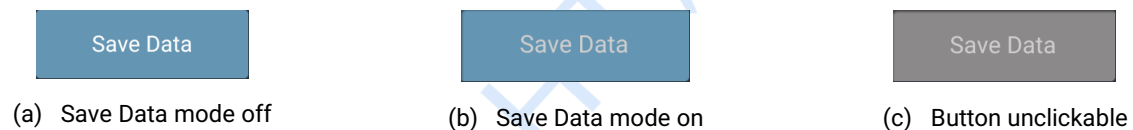

Figure 4-14 Three states of the Save Data button
Step 3: By default, the Save Data working mode is off. If users want to turn on the Save Data mode, click the **Save Data** button when the button is clickable (as shown in Figure 4-14(a)); and to turn off the mode, click the **Save Data** button again;